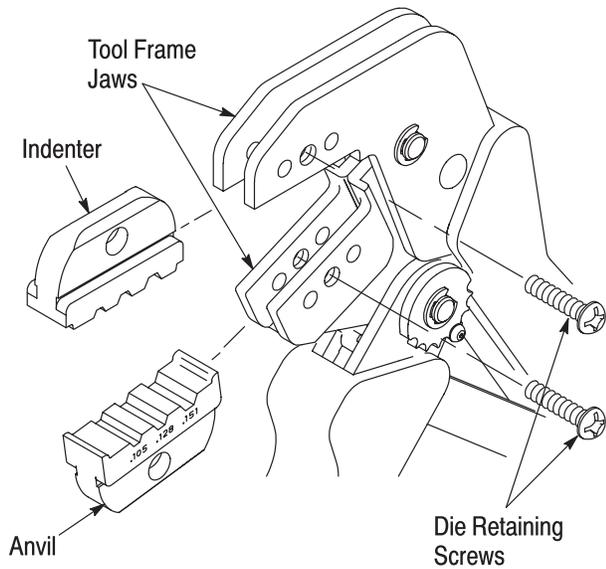

Figure 2
**3. INSTALLATION AND REMOVAL OF DIE ASSEMBLY** (Figure 2)
2. Insert the dies into the tool jaws as shown in Figure 2, and align the retaining holes in each die with the associated hole in the tool.